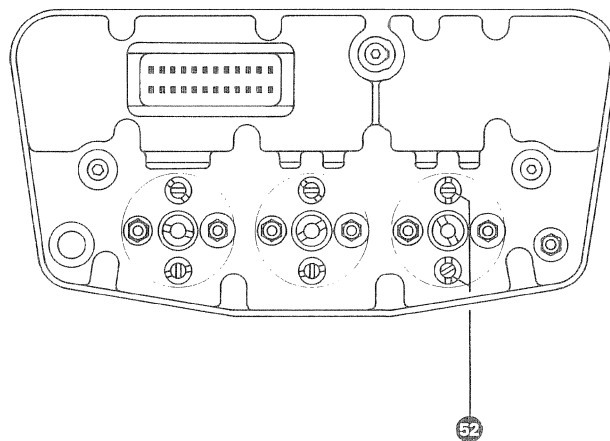

Fig. 7.5.-3
8. If the difference is more than 12 dB, the height of the reproduce head must be re-adjusted with screw 52 (fig. 7.5.-3).